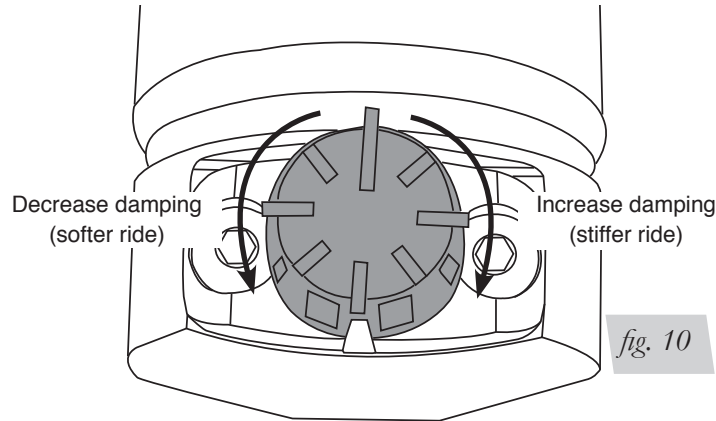

fig. 10
1. Some struts for this vehicle come with a nine-position damping dial for added adjustability (Fig. 10). If not, proceed to 2.